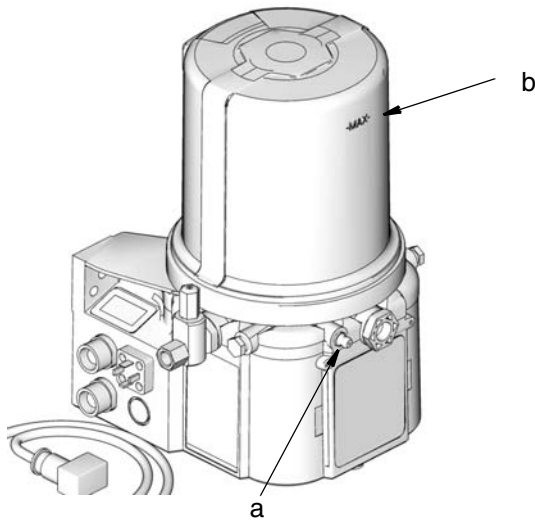

FIG. 126
1. Connect a pneumatically powered grease gun to the grease zerk (a) on the G3 pump. Fill the G3 pump reservoir with grease to the “MAX” line mark (b) on the front of the reservoir (FIG. 126).